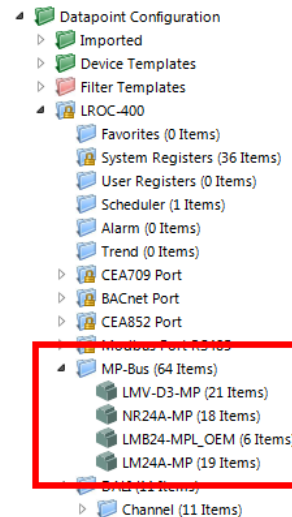

Figure 174: Data Point Manager with MP-Bus device folders.
- The folder list (Figure 174),